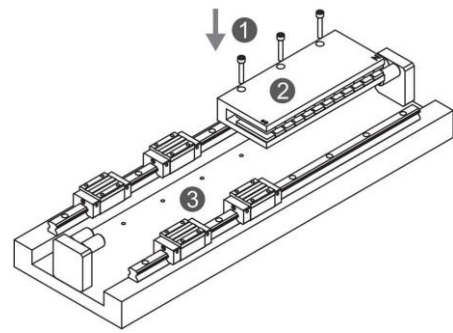

Figure 5.2-2 Stator installation
- ▶ Use screws ① to attach the stator assembly ② at the right most side onto the baseplate ③.(refer to Figure5.2-2)